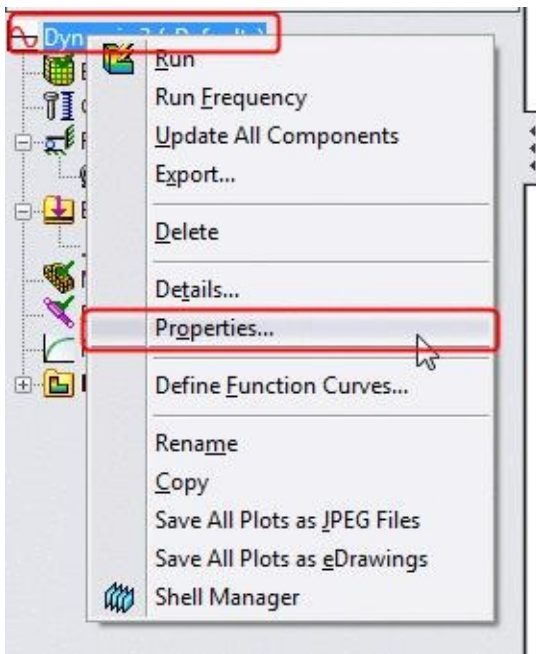
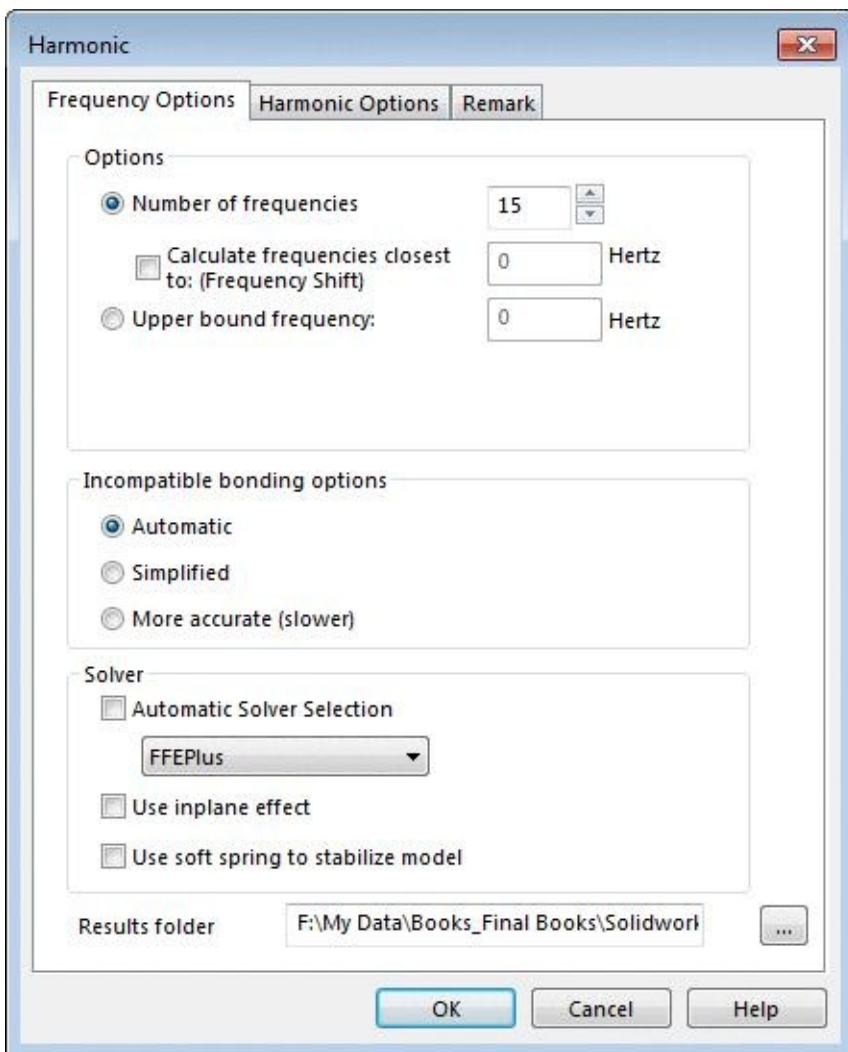

Figure-18. Properties option
Figure-19. Harmonic dialog box
- Right-click on the Harmonic study from the **Analysis Manager** and select the **Properties** option from the shortcut menu; refer to Figure-18. The **Harmonic** dialog box will be displayed; refer to Figure-19.